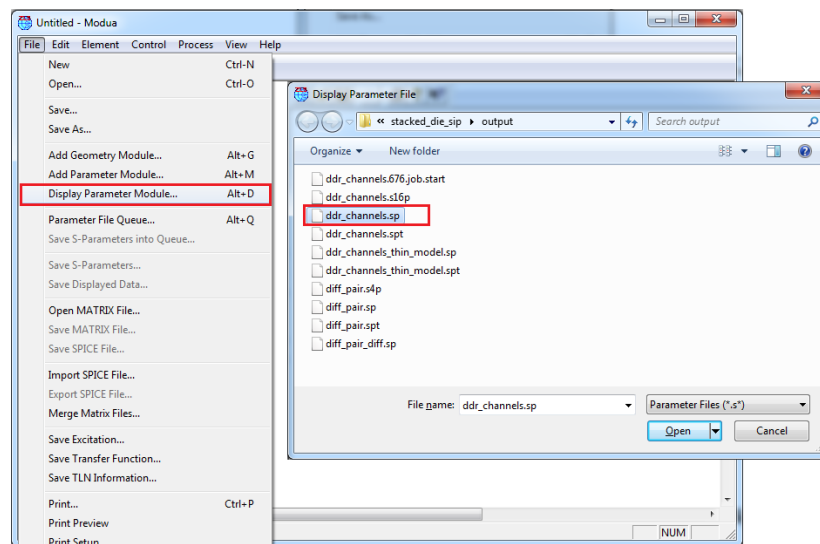

Fig. 29 Modua Window for Displaying S-parameter File.
2. Select **MODUA->File->Display Parameter Module** (see Fig. 29). Select the file: